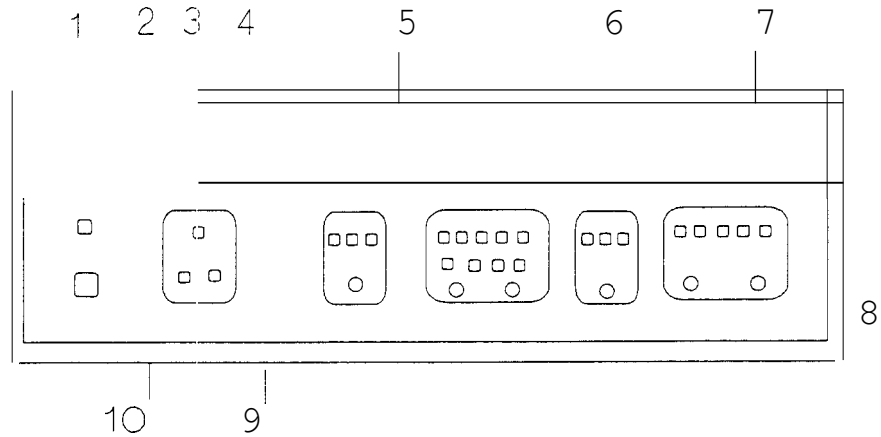

Figure 5-7. A1 Keyboard assembly securing screws
2. Remove the ten screws shown in Figure 5-7 if the A1 keyboard and frontpanel assembly *and* the card cage are to be removed.